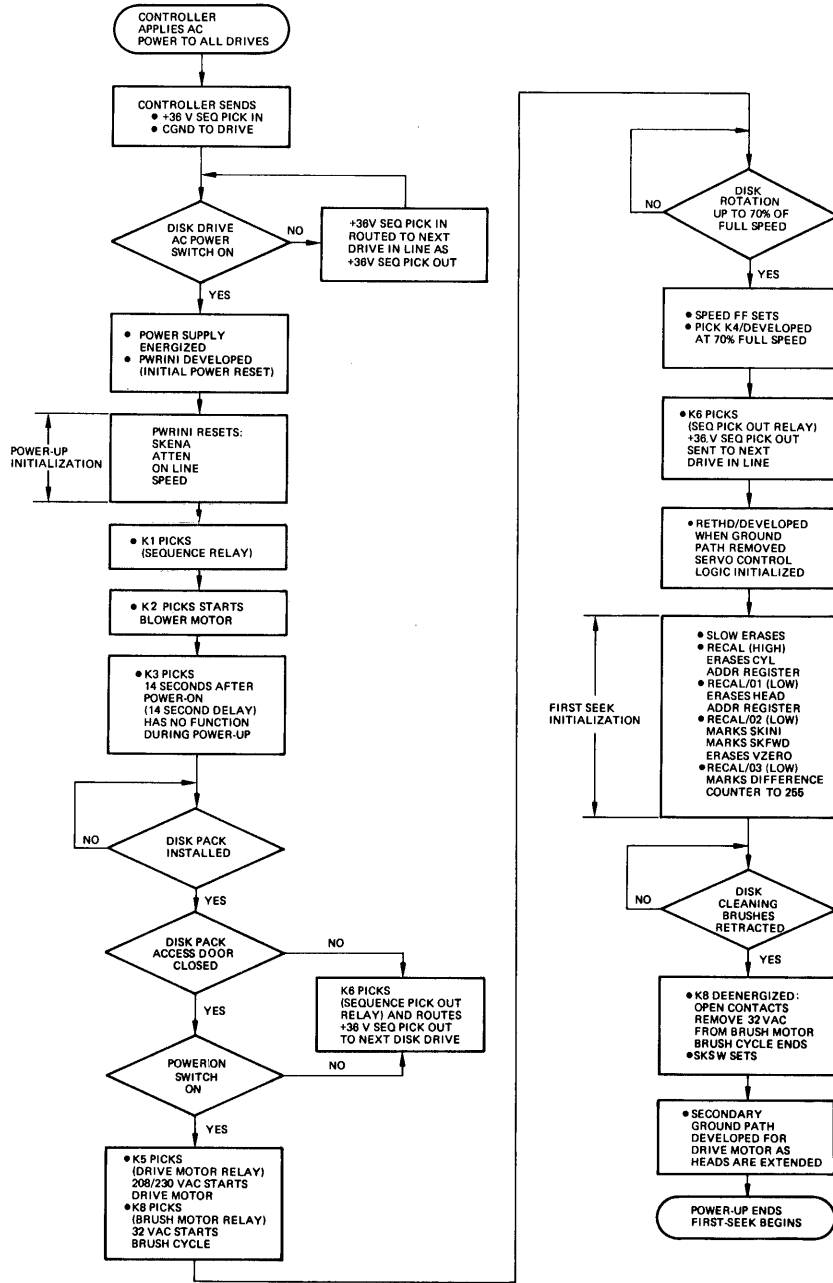

Figure 3-12. Controller Initiated Power-Up, Flow Diagram
- When the head carriage detents at cylinder zero, seek ready status signals and ACCOL develop the gated attention signal to the controller, indicating power-up and first seek operations are complete. Figure 3-12 is a flow diagram summarizing the controller initiated power-up sequence